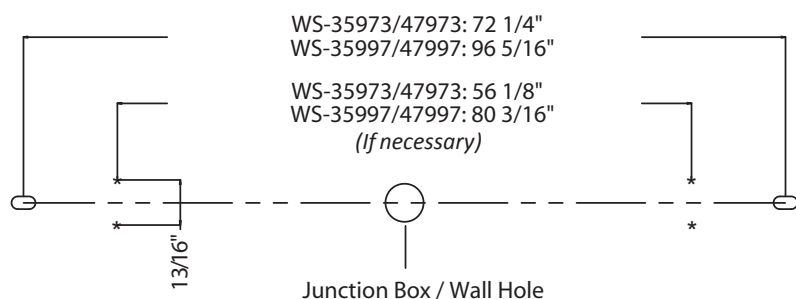

FIG. 4 Wiring
2. Remove the mounting screw (B) and the end cap from the fixture.
4. Connect the fixture's wires to house wires as shown (Fig.4). Make sure that all wire connectors (A) are secure. If your outlet box has a green or bare copper ground wire, connect the fixture's ground wire to it. Otherwise, tuck the fixture's ground wire directly to the fixture. After wires are connected, tuck them carefully inside the wall hole.
5. Slide acrylic diffuser and PC strip slightly out of the way to review the plastic anchor location on the back, then fasten the fixture to the wall using wood screw (E).
3. Remove the mounting screw (B) and the end cap from the fixture.
4. Connect the fixture's wires to house wires as shown (**Fig.4**). Make sure that all wire connectors (A) are secured. If your outlet box has a green or bare copper ground wire, connect the fixture's ground wire to it. Otherwise, tuck the fixture's ground wire directly to the fixture. After wires are connected, tuck them carefully inside the junction box.
5. Slide acrylic diffuser and PC strip slightly out of the way to review the plastic anchor location on the back, then fasten the fixture to the wall using wood screw (E), make sure to align the decorative plate to adequately cover the junction box wall opening.
6. Secure the end cap to the fixture using mounting screw (B) to seal the acrylic diffuser.